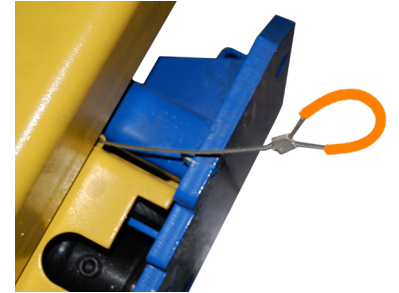

Fig. 2
5. **Be sure to clean all dust from hole.** (fig. 2).
Press the up button enough to allow the safety locks to be disengaged. Pull both latch releases Fig. 2 to release the safety locks.
12. Lower vehicle by pressing the Up button to disengage the safety locks. Pull both latch releases to release (Fig. 2) the safety locks then press the lowering handle (Fig. 1) until the lift is completely lowered.